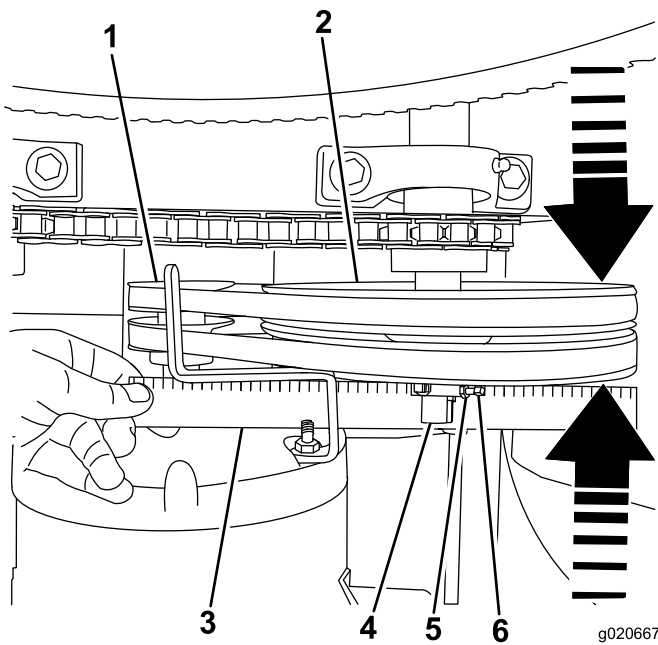

Figure 41
2. Place a straightedge across the face of the motor pulley and the idler pulley (Figure 41).
- B. Loosen the locknuts and setscrews that secure the idler pulley to the idler shaft (Figure 41).
- C. Using a soft-face mallet, tap the idler pulley forward or backward along the idler shaft until the motor pulley and the idler pulley are aligned to the straightedge (Figure 41).
- D. Tighten the setscrews and locknuts that secure the idler pulley to the idler shaft (Figure 41).